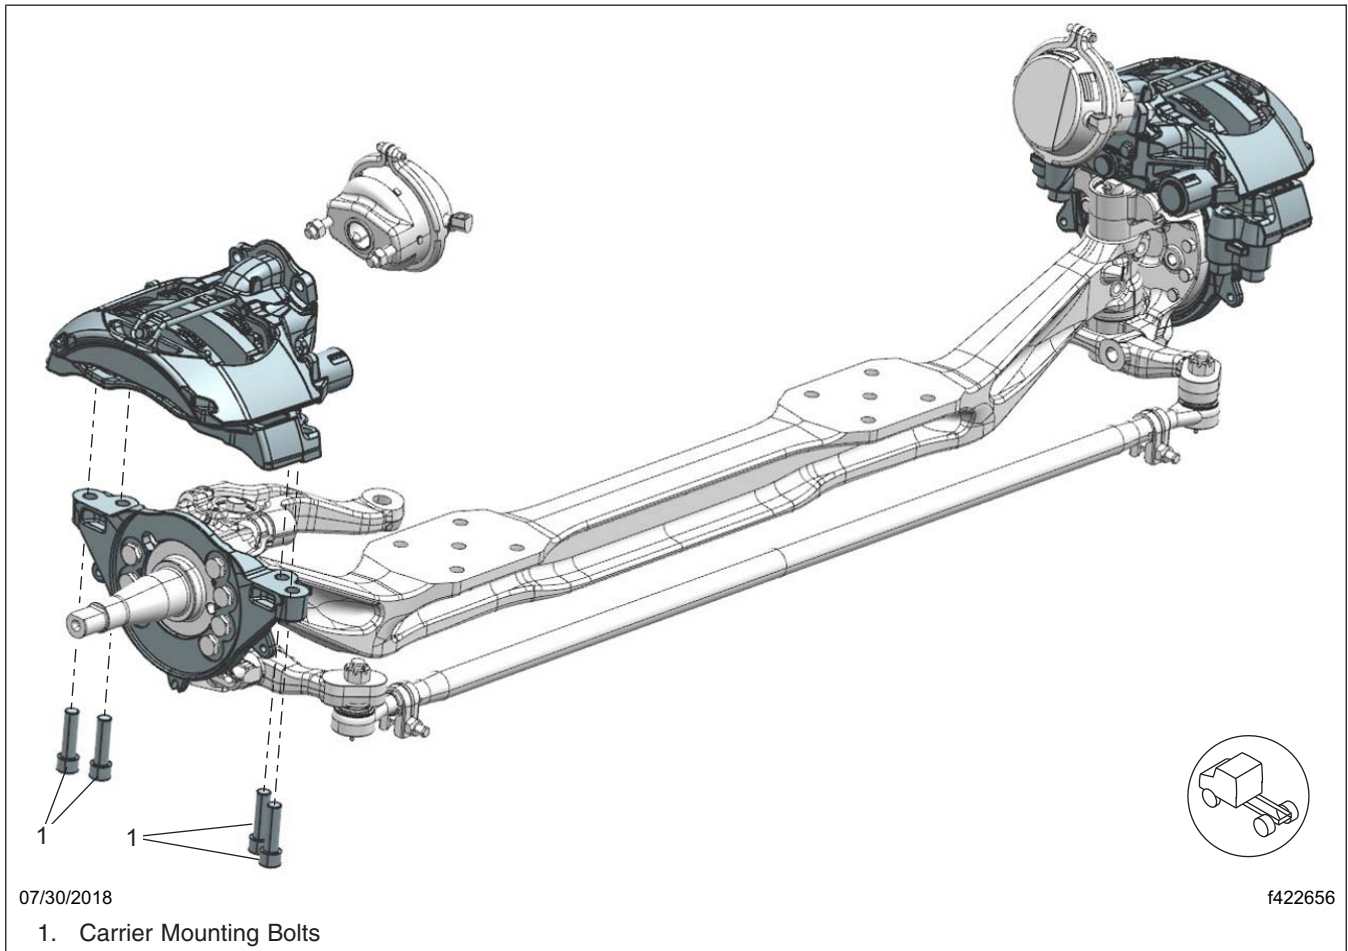
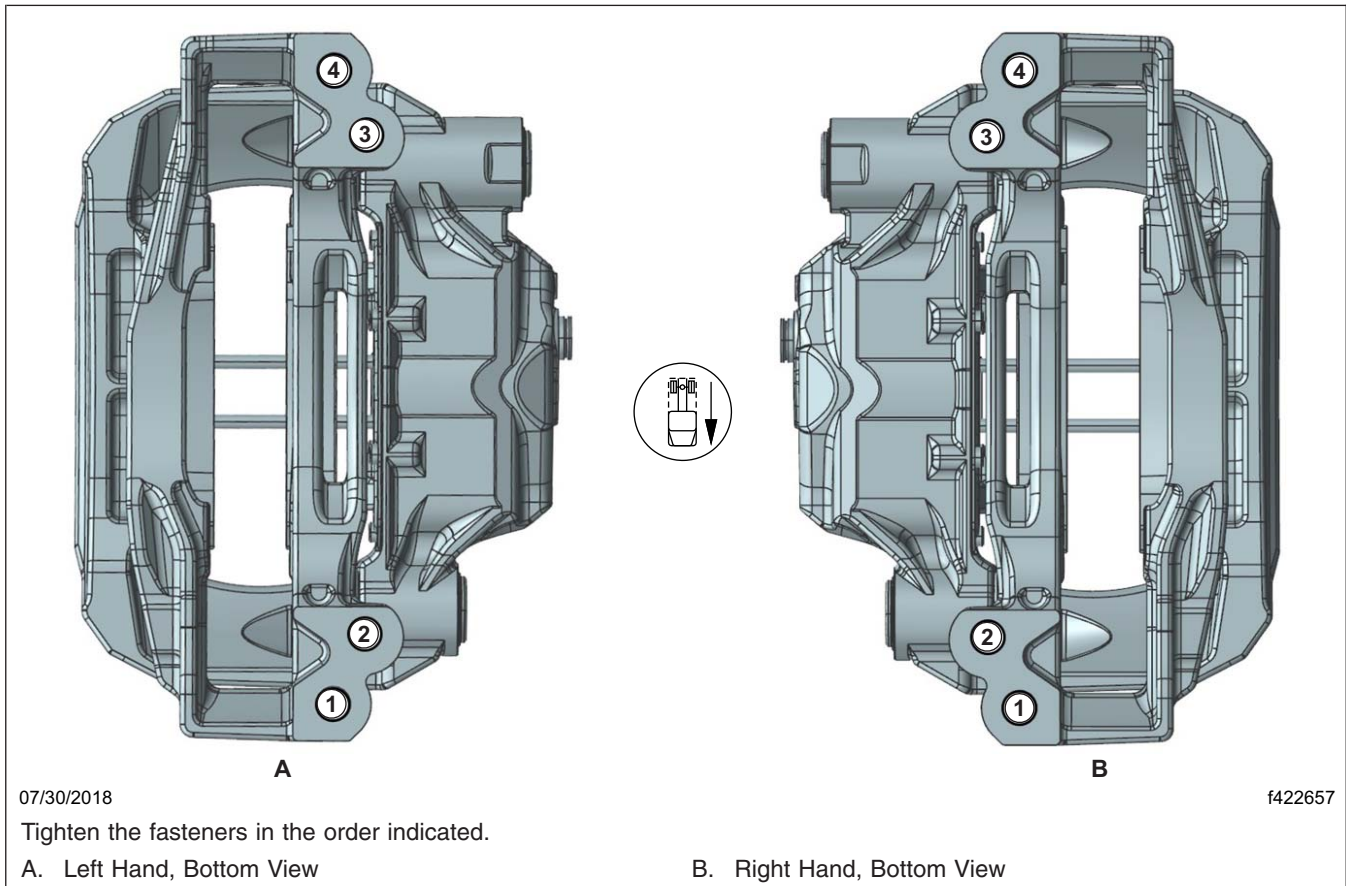

Fig. 9, Wabco Maxxus Radial Mounted Calipers
Fig. 10, Wabco Maxxus Radial Mounted Caliper Tightening Pattern
9. Align each caliper/carrier assembly with the rotor by pushing the fixed pin side of the caliper against the shelf on the torque plate, then install the caliper/carrier assembly using new caliper mounting bolts. See Fig. 9 and Fig. 10.
10. Tighten the carrier mounting bolts in two steps, using the pattern shown in Fig. 10.